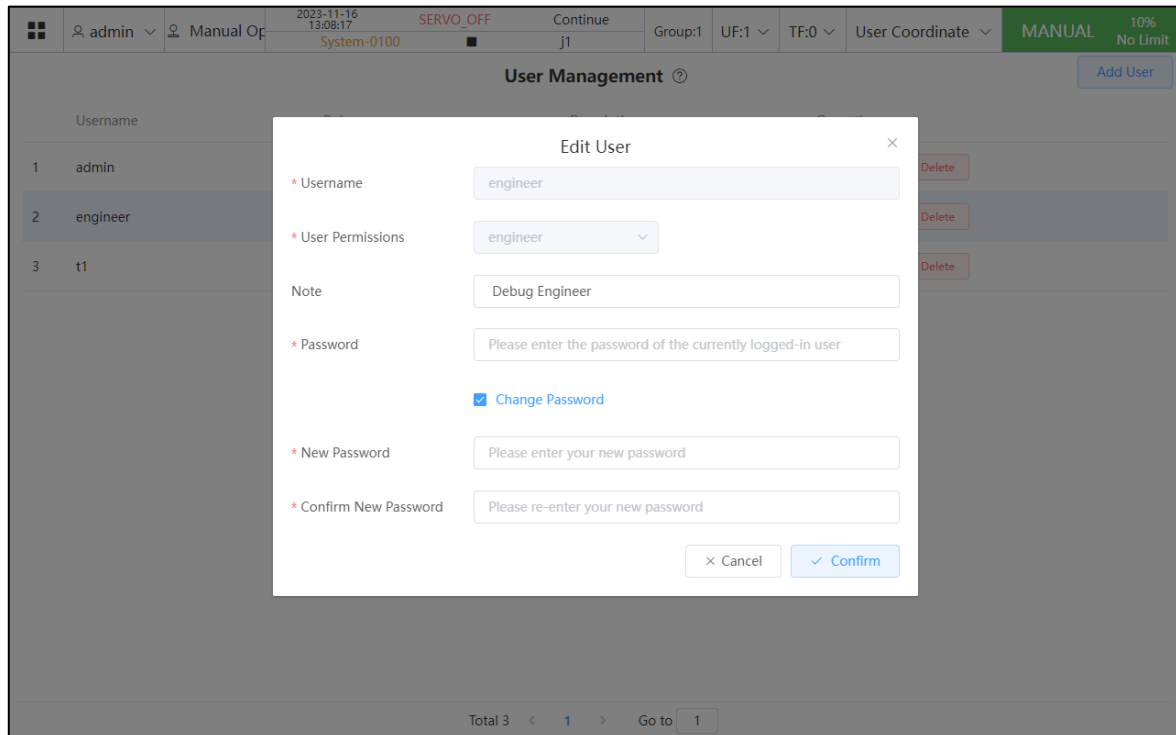

Fig. 2.56 "Modify Password" Interface
- Click ☐ before "Modify Password" to enter the password modification interface , as shown in Fig. 2.56.